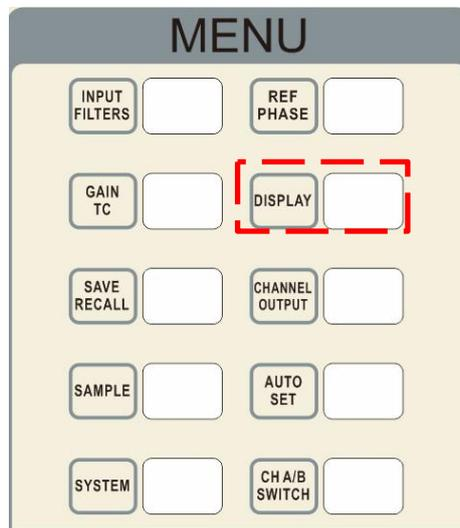
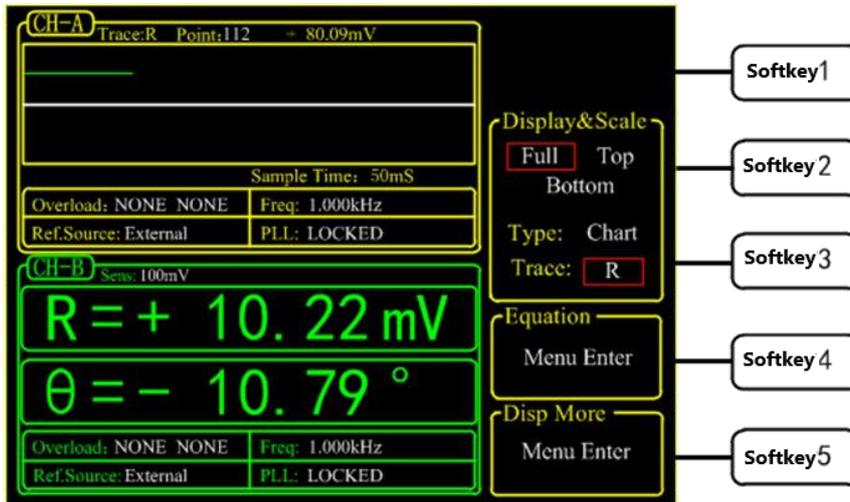

Fig.87 [DISPLAY]
Fig.88 [DISPLAY] Menu Interface
6. The data bar of main interface displays the value of <R>, <X>, <Y> and < θ >. Press [DISPLAY] in front panel to enter the submenu, as is shown in Fig.87 and Fig.88.